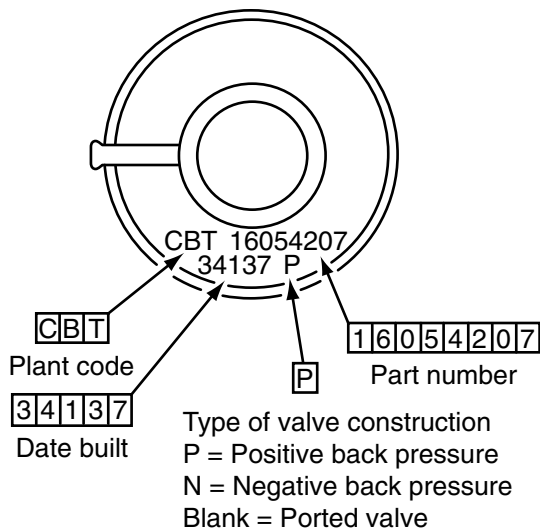

Figure 10-62 EGR valve identification.
- a “P” stamped on the top of the positive back-pressure valve (Figure 10-62)